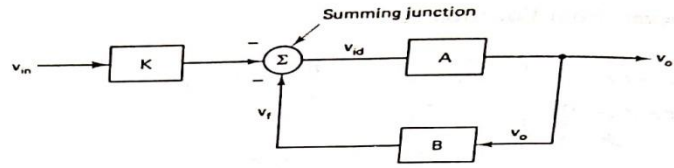

FIGURE 3-9 Block diagram of inverting amplifier with feedback using a voltage-summing junction as a model for current summing.
The one-line block diagram of the inverting amplifier with feedback is shown in Figure 3-9. The reason for the block diagram is twofold: (1) to facilitate the analysis of the inverting amplifier, and (2) to express the performance equations in the same form as those for the noninverting amplifier.
The block diagram in Figure 3-3 for the noninverting amplifier and the block diagram in Figure 3-9 for the inverting amplifier are identical, except for the K block. However, the major difference is that in Figure 3-9 a voltage-summing junction is being used as a model for what is actually current summing.